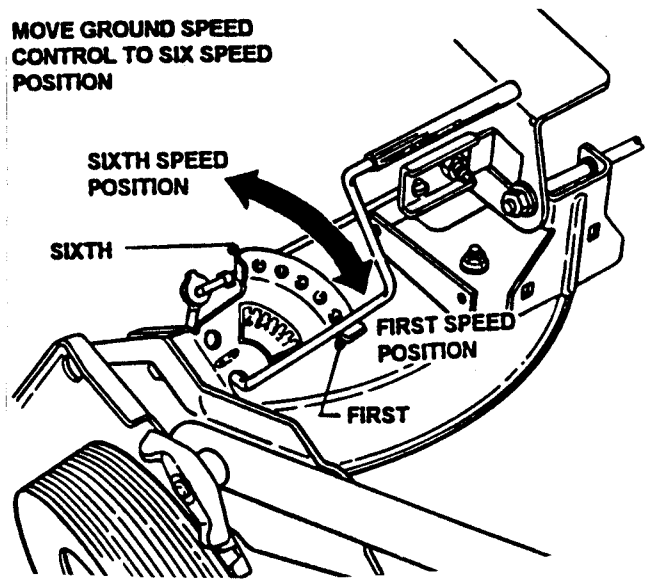

FIGURE 3.13
- (a) Place ground speed control in the number six speed position. See Figure 3.13.